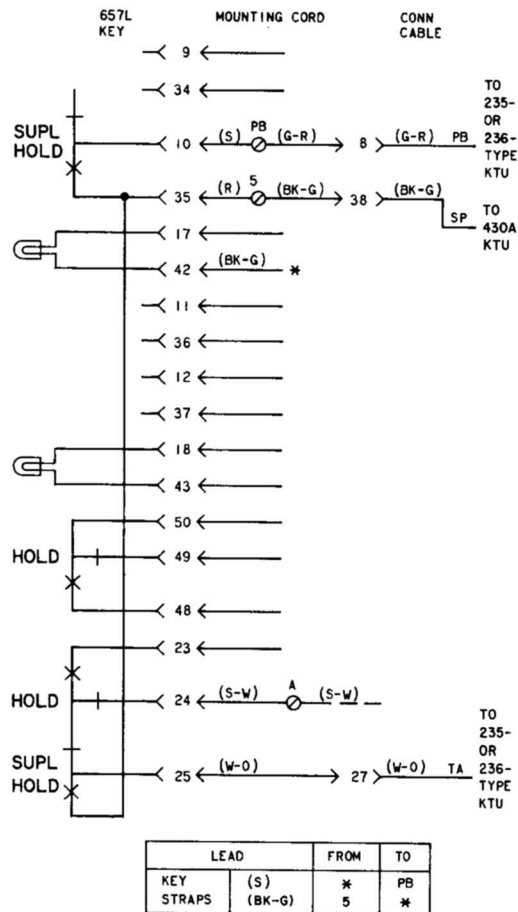

Fig. 6—Priority Hold, Using 657L Key
- Add modification table, Fig. 6
2.04 When station busy lamp feature is required with these sets having 1A1 or 1A2 KTS line circuits, a P-90D033 Printed Wiring Board Assembly must be ordered separately and installed in the 636- or 637-type telephone set. With this option, the busy lamp will light whenever a line pickup button is depressed and the handset is off-hook or the headset is plugged into the jack. See Fig. 6 for connections and Section 502-600-100 for installation procedures.
2.05 Sets equipped with a D120C mounting cord manufactured prior to III-68 must use circuit per Fig. 6 to provide station busy lamp feature.
5. WHEN INSTALLING P-90D033 PRINTED WIRING BOARD ASSEMBLY TO PROVIDE STATION BUSY LAMP FEATURE IN 1A1 OR 1A2 KTS CONNECT A OR H LEAD [S-BL] FROM LAST KEY MODULE TO TERMINAL X OF TBVI. SEE FIG. 6.